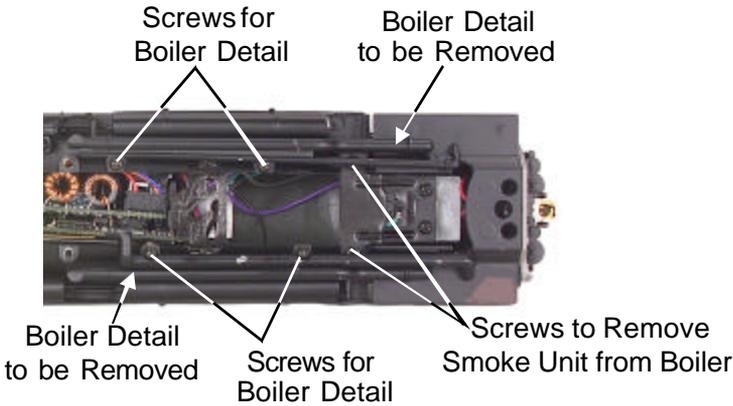
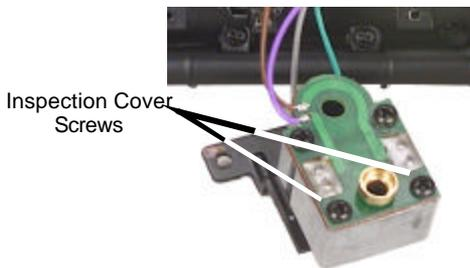

Figure 5a. Accessing the Smoke Unit
Figure 5b. Inspecting the Smoke Unit
If you experience poor or no smoke output when the smoke unit is on and has fluid, check the wick to see if it has become hard, blackened, and unabsorbent around the heating element. Remove the boiler shell (by removing the body mounting screws shown in Fig. 7a on pg. 12), the two pieces of boiler detail (these need to be removed in order to access the two screws that allow the smoke unit to come free from the boiler shell) as shown in figure 5a, inspection cover screws, and inspection cover (Fig. 5b). Inspect the wick; if it is darkly discolored and hard, it should be replaced.
2. Remove the smoke unit from the boiler by removing the screws as shown in Fig 5a on pg. 11.